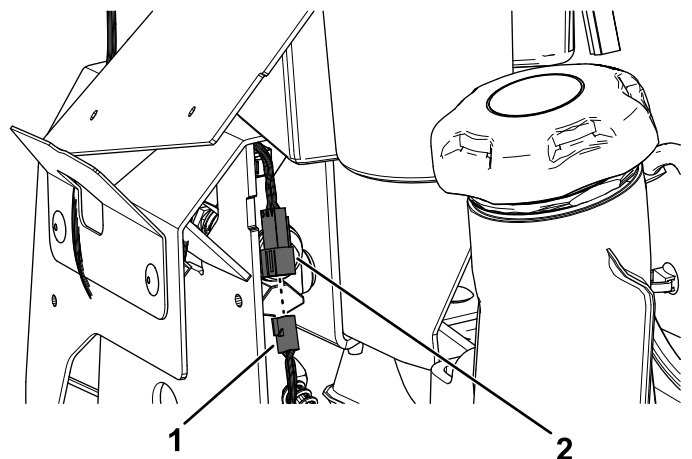

Figure 16
- Connect the kit wire harness connector to the new left motion-control lever connector (Figure 16).